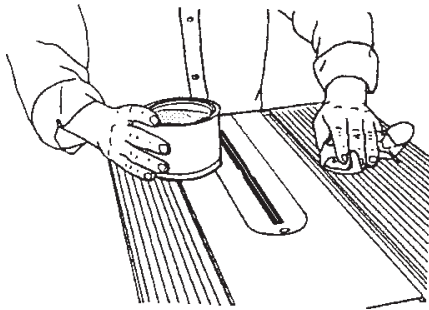

Figure B-31
- the worktable (shown in Figure B-31) and extension table surfaces